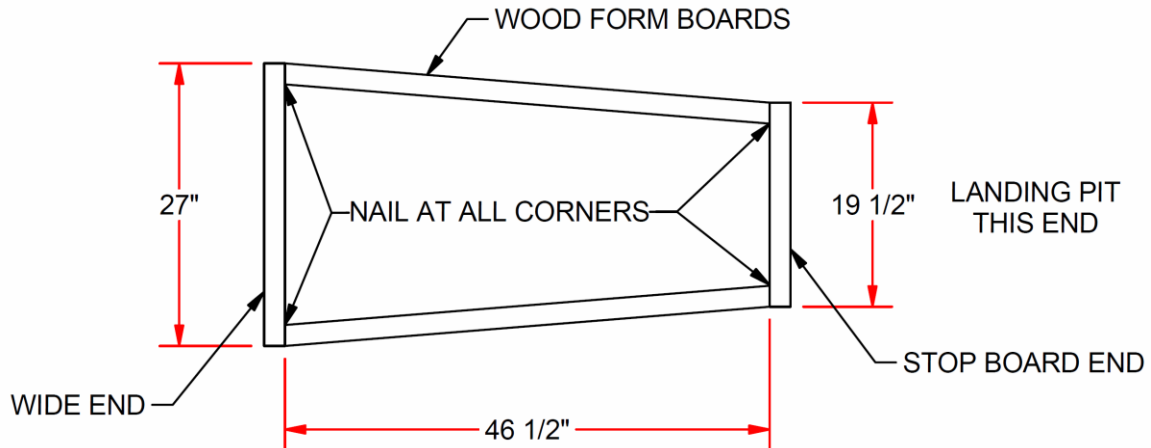

Figure 1
- 1) Construct the form as shown in Figure 1.